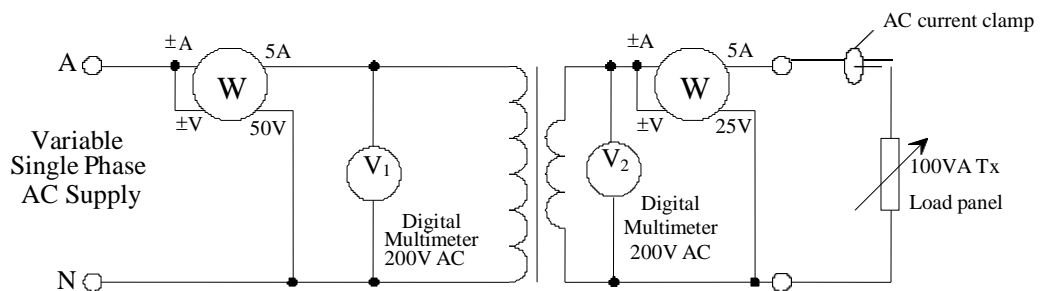

Figure 3
1. Connect the circuit as shown in figure 3, using the 42V winding as the primary.